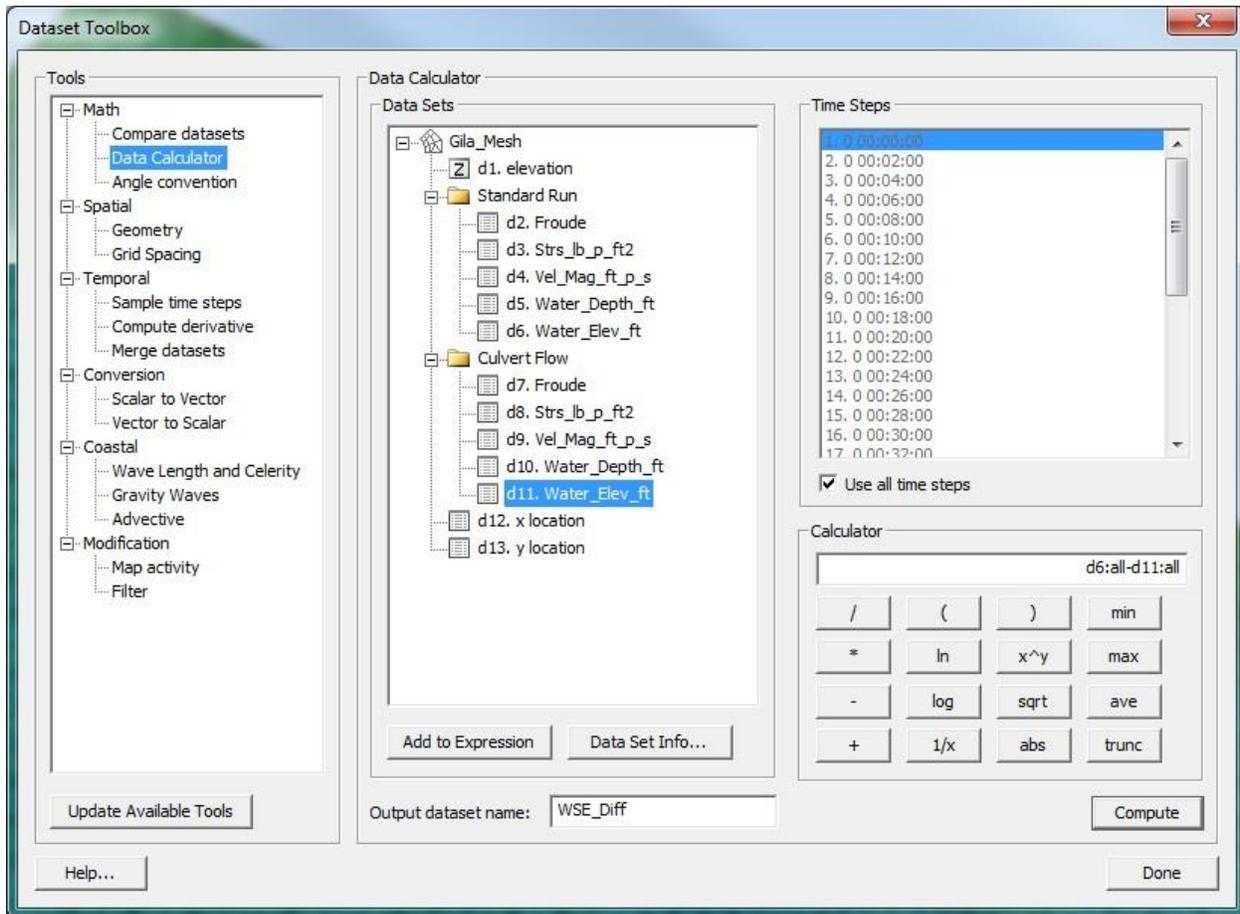

Figure 10 Data Calculator Expression
7. Specify the name of the dataset as “WSE_Diff” in the *Output dataset name* box. The window should look like Figure 10.